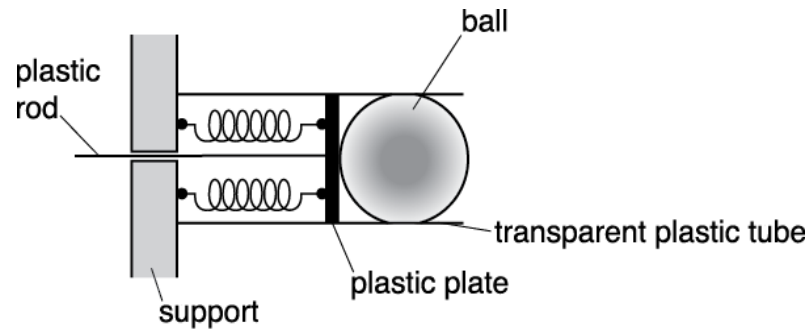

Fig. 17.1
- 25 The ball-release mechanism of a pinball machine is shown in Fig. 17.1.
Explain why the force constant of the two springs in parallel in Fig. 17.1 is equal to $2k$.